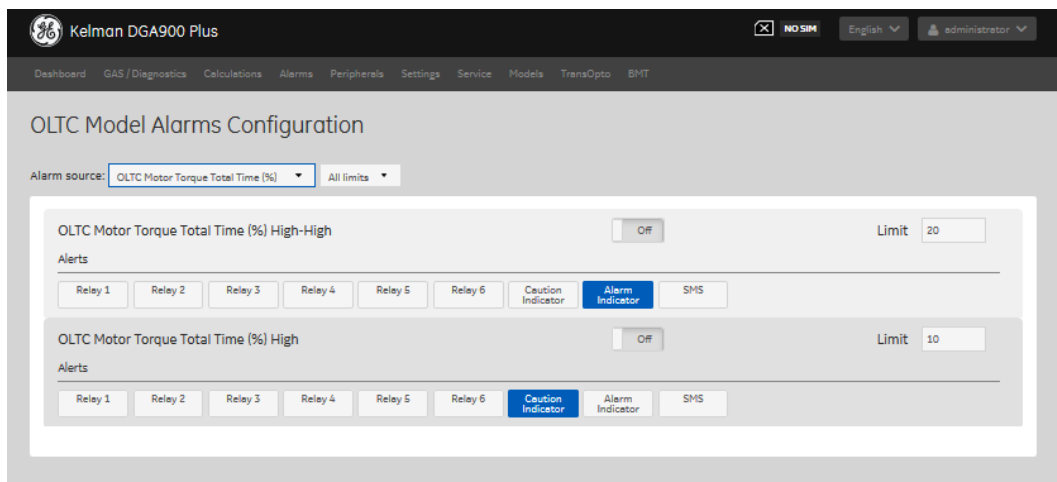

Figure 10-6: OLTC Motor Torque Total Time (%) - Alerts Off
- The adjacent box should list **All limits** as shown in Figure 10-6. If not, select the 'Alerts' dropdown menu and choose **All limits**.
- For each Alert, use the slider control to slide the Alert to the **Off** position as shown in Figure 10-6.